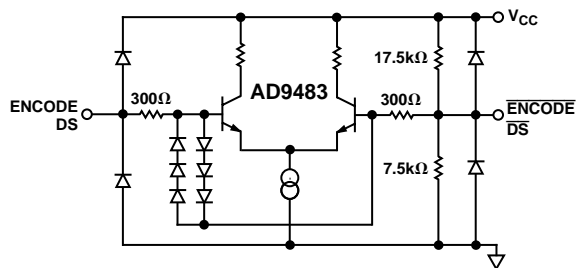

Figure 5. Equivalent Encode and Data Select Input Circuit
ENCODE and Data Select (DS) can be driven differentially or single-ended. For single-ended operation, the complement inputs ( $\overline{\text{ENCODE}}$ ,  $\overline{DS}$ ) are internally biased to  $V_{DD}/3$  (~1.5 V) by a high impedance on-chip resistor divider (Figure 5), but they may be externally driven to establish an alternate threshold if desired. A 0.1  $\mu\text{F}$  decoupling capacitor to ground is sufficient to maintain a threshold appropriate for TTL or CMOS logic.
Note the 6-diode clock input protection circuitry in Figure 5. This limits the differential input voltage to  $\pm 2.1$  V. When the diodes turn on, current is limited by the 300  $\Omega$  series resistor. Exceeding 2.1 V across the differential inputs will have no impact on the performance of the converter, but be aware of the clock signal distortion that may be produced by the nonlinear impedance at the converter.